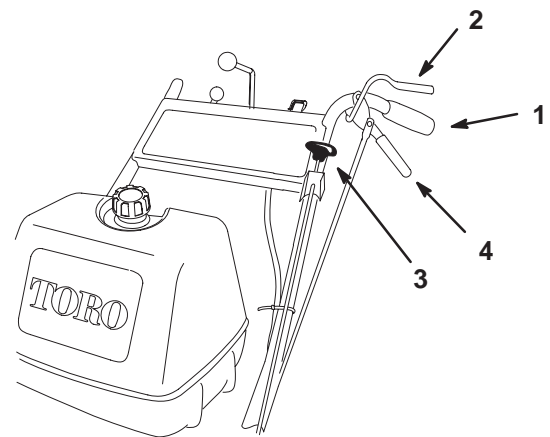

Figure 23
1. To engage blades, squeeze the Operator Presence Control (OPC) levers against handle grips (Fig. 23).
1. Push the blade control knob (PTO) down to off (Fig. 23).
2. Release Operator Presence Control (OPC) levers to disengage blades (Fig. 23). This will also kill the engine.